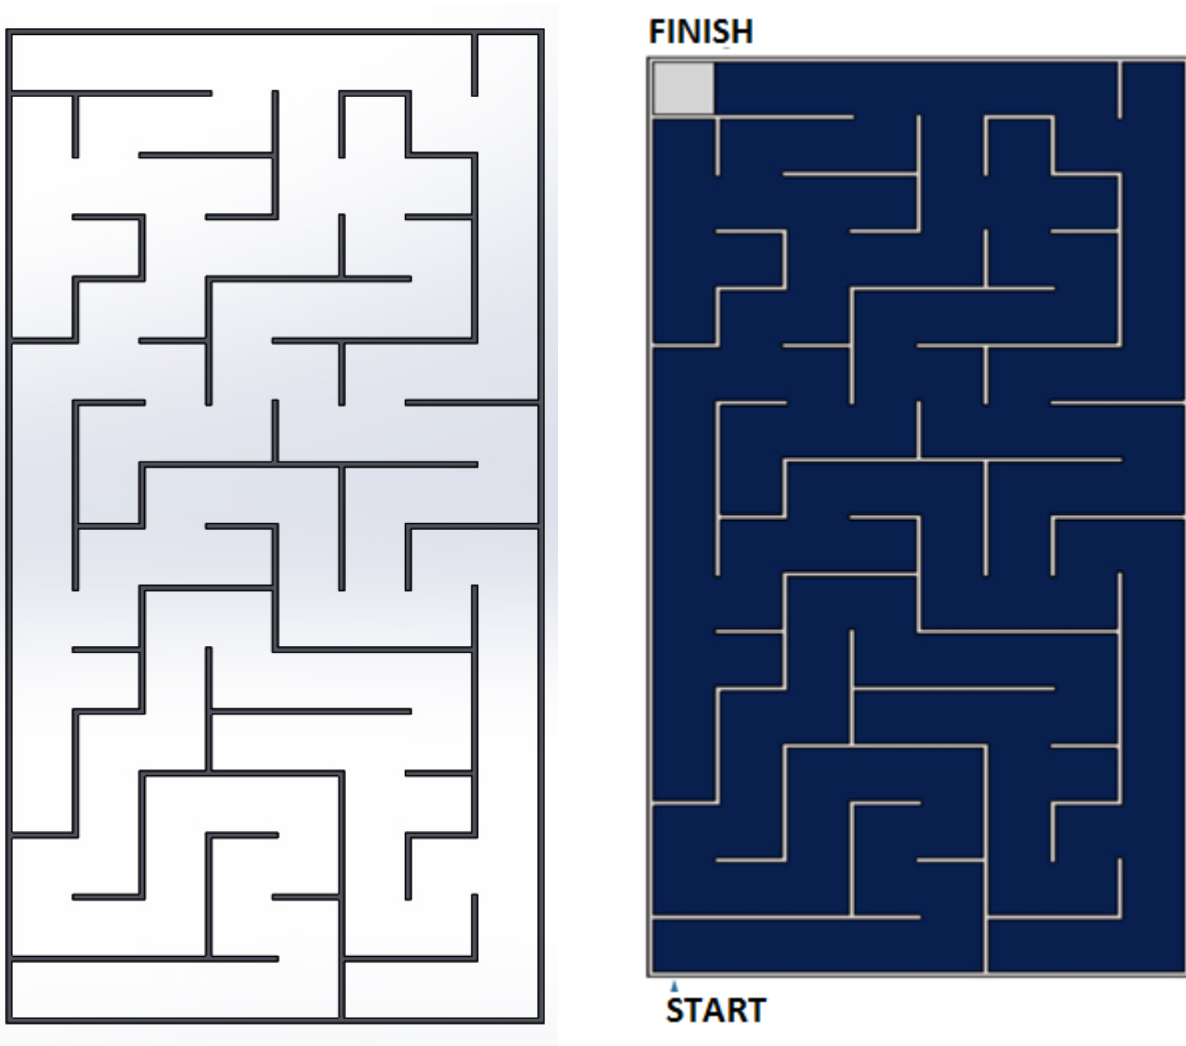

Figure 3. Competition Track for Round One
- The 1st round competition track will be the same as the track in Figure 3.
- The start and end points are 20 cm x 20 cm and are inside the track matrix. The start and end points of the 1st round are shown in Figure 3. In the final round, the start point can be found in row 1 of the matrix, the end point can be found in row 16 of the matrix and in any cell. The end point has a white area of 20 cm x 20 cm.